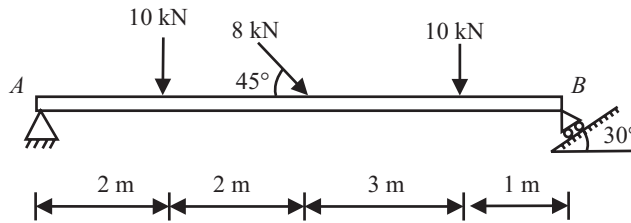

Fig 8.30
Q. 12: A beam 8m long is hinged at A and supported on rollers over a smooth surface inclined at 300 to the horizontal at B. The beam is loaded as shown in fig 8.30. Determine the support reaction.